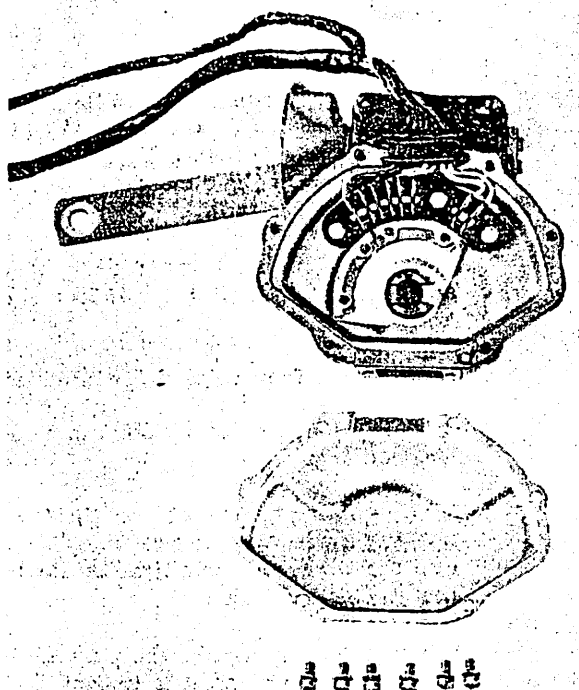

Fig. 11 ACTUATOR WITH COVER REMOVED
2. Gear Box Assembly. Remove the external cover plate. (Figure 11) Fit the armature and its coupling on the worm gear shaft and rotate the shaft by hand. The shaft should turn freely and smoothly except at each end of the segment stroke. Torques in excess of two pound-inches or a feeling of stickiness are abnormal and the cause must be determined.